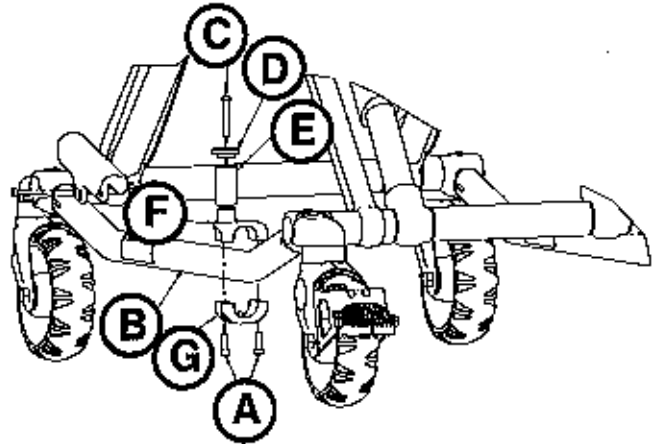

Figure 107
3. Using a T30 Torx driver, remove the two socket head cap screws (A) that secure the current cot retaining post to the base tube (B) (Figure 107). Discard the screws and cot retaining post.
4. Insert the button head cap screw (C) through the retaining post cap (D) and post tube (E), and then into the top pin bracket (F) (Figure 107).
5. Using a 5/32" hex wrench, tighten the button head cap screw (C) completely to secure the retaining post cap (D) and post tube (E) to the top pin bracket (F) (Figure 107). Using a torque wrench, torque the screw to 100-140 in-lb.
6. Assemble the cot retaining post across the base tube. Align the holes of the brackets and insert two socket head cap screws (A) into the threaded holes of the bottom pin bracket (G) (Figure 107).